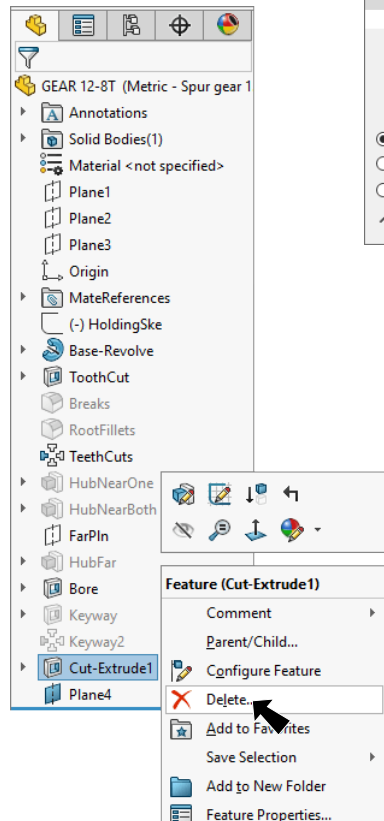

Fig. 2
Step 1. Delete Cut-Extrude1. To delete, in the Feature Manager, click to select and press Delete key (keep Sketch1) or right click, Fig. 2.